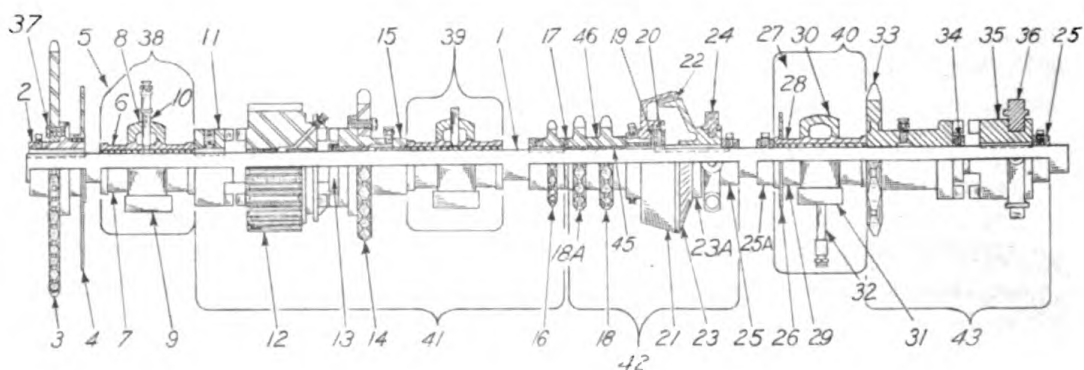

Figure 101.
Certain repairs may be made to the main jackshaft (3A) Figure 96, without removing the entire shaft from the unit. The drive sprocket (3) Figure 101, the bearings (38) (39) (40), the conveyor hoist shifter (24), the conveyor drive sprocket (33), the jaw clutch (35) and all the chain fall into this category.
Conveyor drive sprocket (33) Figure 101, jaw clutch (35), and shifter yoke (36), may be replaced by removing chain guard, disconnecting conveyor drive chain and stripping shaft up to the bearing (40). This may be assembled by reversing the order of stripping.
(a) Remove transmission drive chain and guard (see above) and sprocket (3) Figure 101, which is keyed and set screwed to the end of the shaft, remove the patch plate (4) to which the chain guard bolts. Uncouple Bucket Line Drive Chain.
(f) Uncouple chains (27), (26) and (25), then take off bearing caps (8) and (30) Figure 101, and the main jackshaft is free for removal. In taking the shaft out it must be pulled up and out the side opposite the operators side of the loader.
This same thing should be noted with hub (15) Figure 101, and sprocket (33). If bore is worn excessively the oscillation of these parts may damage jaws of engaging clutch. Jaw clutch (35) which is not locked in engaged position may disengage while operating if bore of sprocket (33) is worn excessively. The jaws of the driving clutches should not be rounded as this condition may also cause clutches which are not locked in position to disengage under load. The felt washer (19) should be renewed if it is worn so it will no longer function as a grease retainer. Hoist clutch lining (22) should be replaced if rivets contact drum (21).
After the shaft is assembled, each part should be thoroughly lubricated before any operation is undertaken. Particular attention should be centered on the gear (12) Figure 101. If this gear is not lubricated sufficiently, and heat is created under load, there is danger that the bushings may seize to the shaft and become loose in the gear.